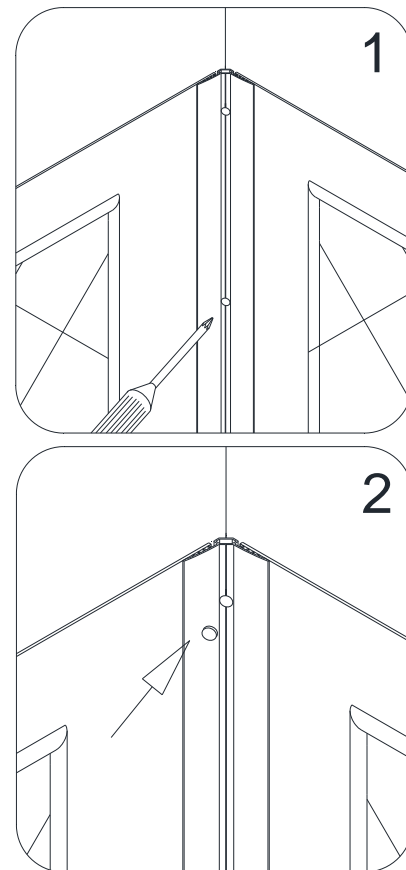

Fig. 24
See Fig. 24 for details.
25. Mark the location for the **Shelf brackets (04)** according to the measurements in Fig. 24 and Fig. 25.1. Drill the holes using $\text{Ø}5/16''$ drill bit and insert the **Wall anchors (06)**.